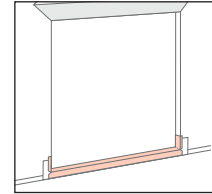

fig. 9
- Cut the second piece of self adhering flashing tape the thickness of the wall plus what is the determined width to overlap to the exterior. Make the tape 18" longer than the width of the opening. Align flush with the interior sill and extend the edge of the tape as much as determined with your specific conditions. Start the piece 9" up the side of the rough opening and run it to the bottom of the opening to the other side of the opening and 9" up the other side. Use a utility knife to cut the sill piece on both corners of the rough opening and fold along the outside wall. (**fig. 9 & 9a**)